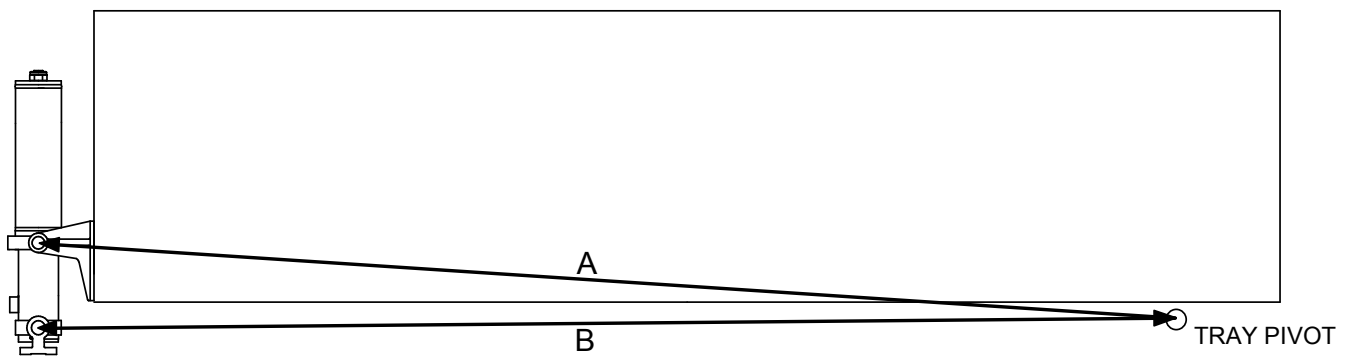

Figure 1: Suspension tube type cylinder mounting (dimensions to pin centrelines)
- For suspension tube type cylinders, dimensions 'A' and 'B' must be within 2mm of each other for adequate operation (refer to figure 1). This will require the hoist to be tilting towards the tray in applications where the tray pivot is low.